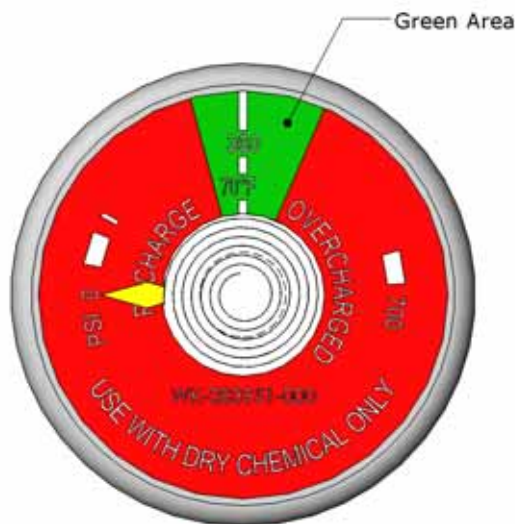
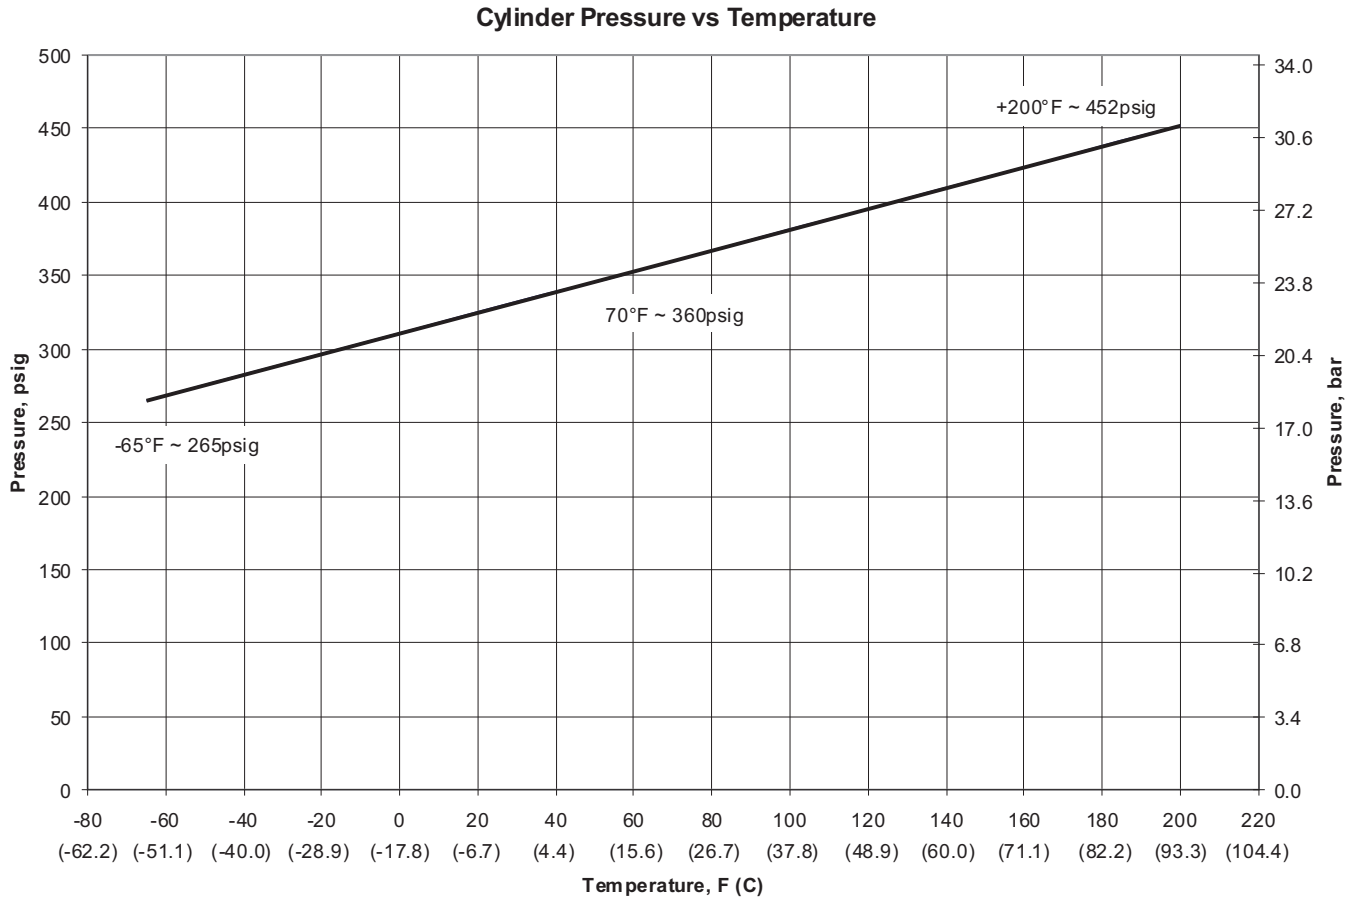

Figure 5-1. Pressure Gauge, P/N WK-283951-000
Figure 5-2. Cylinder Pressure vs. Temperature Chart, -65°F to 200°F
1. Inspect cylinder gauges. The Sentinel DCS pressure gauge (P/N WK-283951-000), shown in Figure 5-1, allows you to determine if the pressure in the cylinder is within the required operating limits. Cylinder gauge readings must be in the green operating range. Verify the proper operating pressure by referring to Figure 5-2.
4. Check the cylinder and valve assembly for leaks. If the pressure is below normal, remove it from service, and recharge it. Figure 5-2 shows a Cylinder Temperature vs. Pressure Chart for reference.